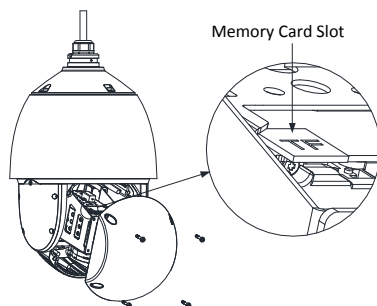

Figure 2-33 Memory Card Slot
- Refer to **Section 2.1.1 Wall Mounting** for wall mounting steps for DE7xxxI series (IR) speed dome.
- Refer to Figure 2-33 for memory card slot of DE7xxxI (IR) series speed dome.